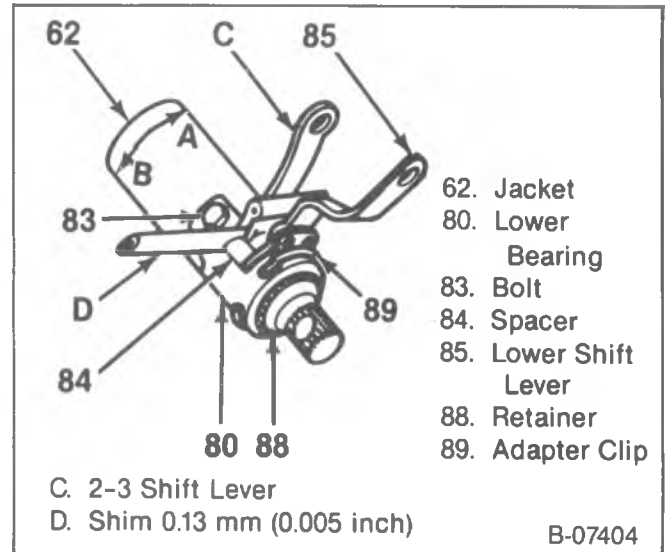

Figure 28—Lower Bearing Adjustment
Adjust (Figure 28)
- Increase clearance by sliding the clamping screws in the direction of arrow "B" until the first reverse lever is free of drag (figure 28).
- Decrease clearance by sliding the clamping screws in the direction of arrow "A" until a slight drag is felt at the first reverse shift lever (figure 28).